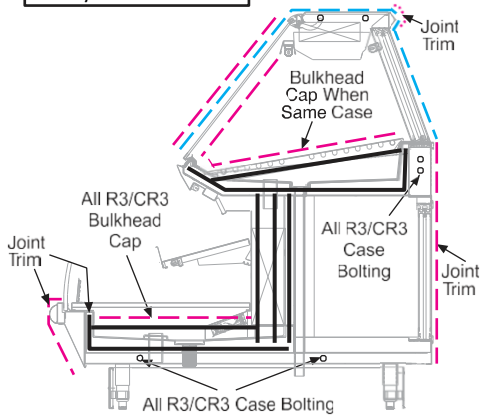

Fig.2, #1
- 5. Apply liberal beads of case joint sealant (butyl) to the areas (solid dark lines) shown in the diagram below (Fig.2, #1) of the first case.